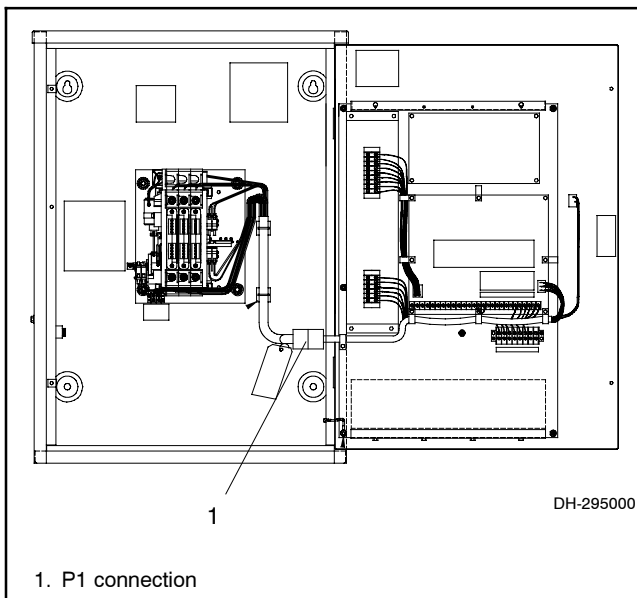
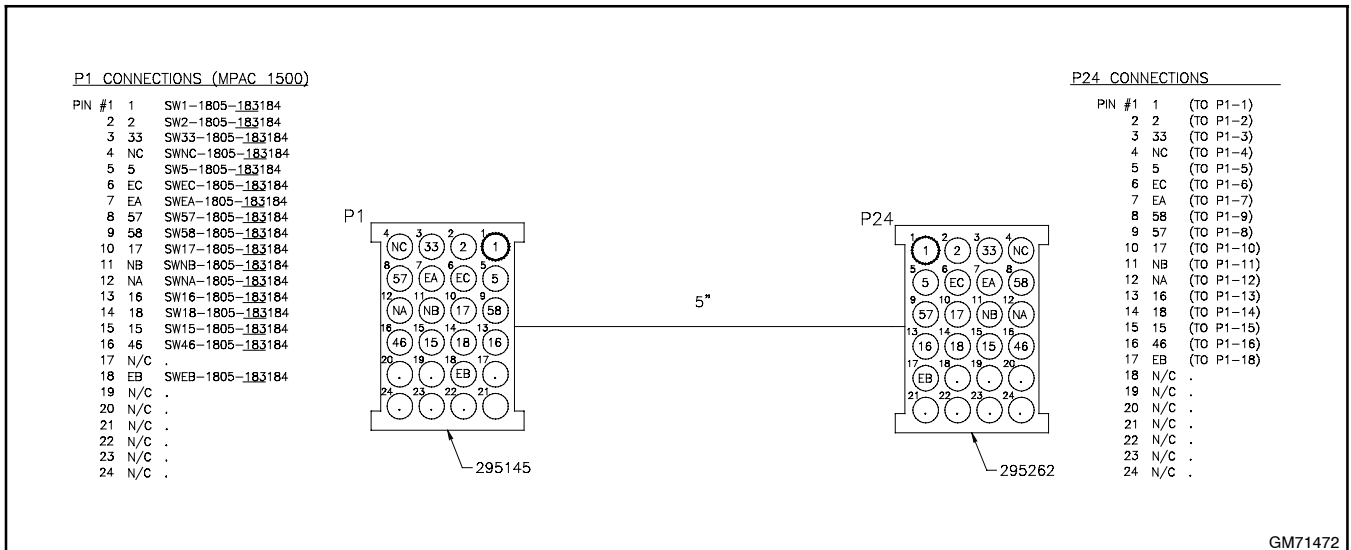

Figure 10 Disconnect P1
Figure 16 Conversion Kit Harness
10. Disconnect the contactor harness from the S340 controller at plug P1. See Figure 10.
18. Connect P24 of the conversion kit harness GM71472 to the contactor harness, which was disconnected from the S340 controller in step 10. See Figure 10 and Figure 16.